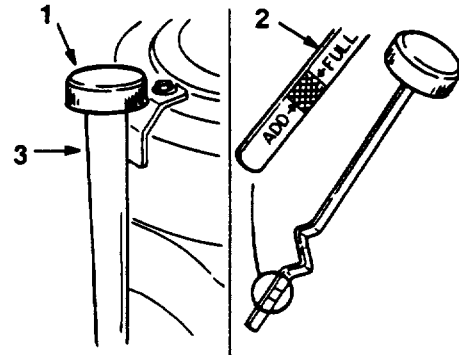

Figure 30
3. Clean around the oil dipstick (Fig. 30) so dirt cannot fall into the filler hole and damage the engine.
4. Unscrew the oil dipstick and wipe the metal end clean (Fig. 30).
5. Screw the oil dipstick fully onto the filler tube (Fig. 30). Unscrew the dipstick again and look at the metal end. If oil level is low, slowly pour only enough oil into the filler tube to raise the level to the "FULL" mark.
6. Slowly pour approximately 80% of the specified amount of oil into the filler tube (Fig. 30). Now check the oil level; refer to Checking Oil Level, page 30, steps 4-5.